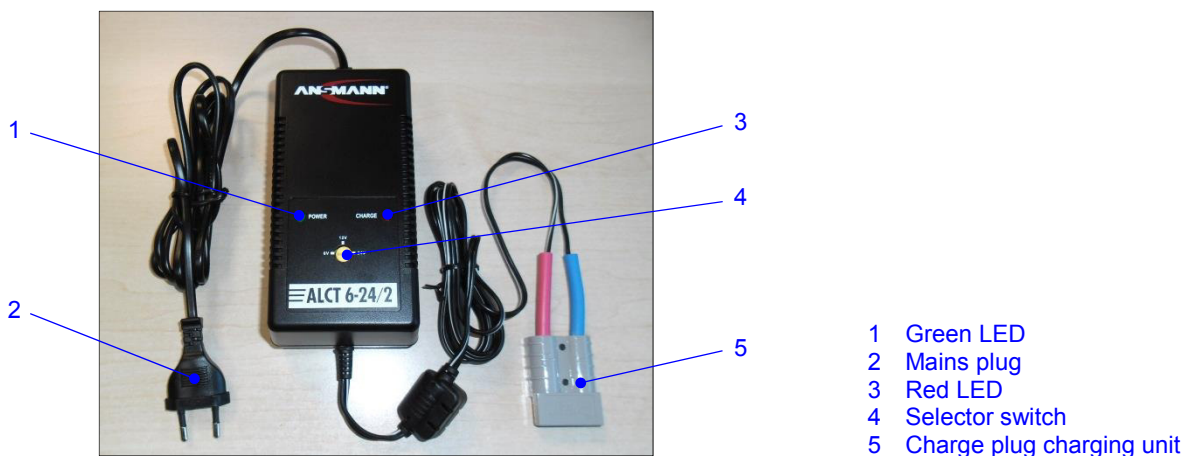

Fig. 13: Battery charger (example illustration)
For charging purposes a charging unit 24 V / 2 A is provided by the OKTOPUS® manufacturer (see fig. 13).
Make sure that the arrow of the selector switch (see fig. 13, pos. 4) points at 24 V. Otherwise there is a danger of explosion during the charging process!